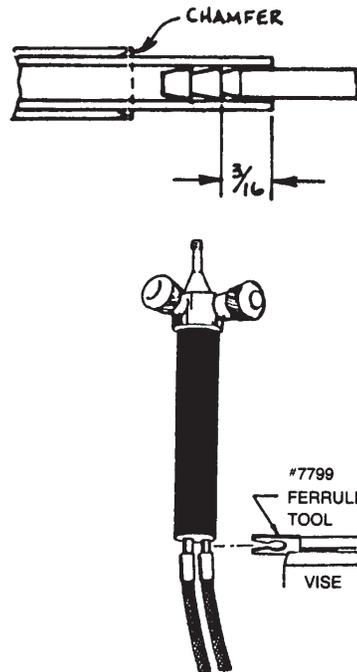

Figure 4
1. Lock ferrule tool in vise. Insert tool between torch body and ferrule See Figure 4.